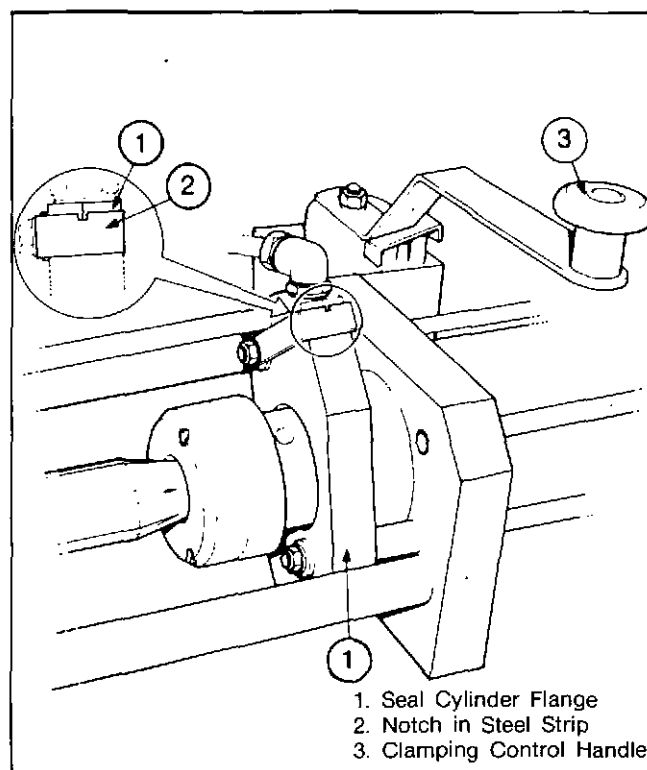

Fig. 2-52. Check the parts alignment
3. Check the test stand parts alignment. A stamped line on the seal cylinder flange and a square notch cut out of the steel strip which covers it, must be within tolerance. The line must be positioned within the width of the notch. Change the combination of cam, link, adapter and injector to correct the alignment. Fig. 2-52.